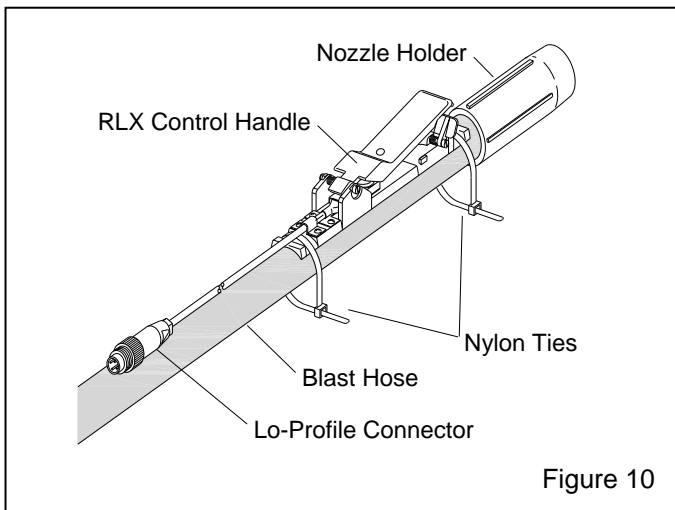

Figure 10
2.4.2 Installing Electric Controls to Blast Hose. Refer to Figure 10.